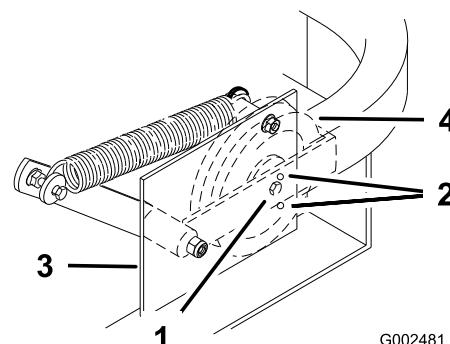

Figure 56
- Important:** Check and make sure the belt is installed into both the front and rear belt guides (Figure 56).
4. Check the belt tension. The spring loaded idler center bolt needs to be near the top alignment hole in left support plate (Figure 56).